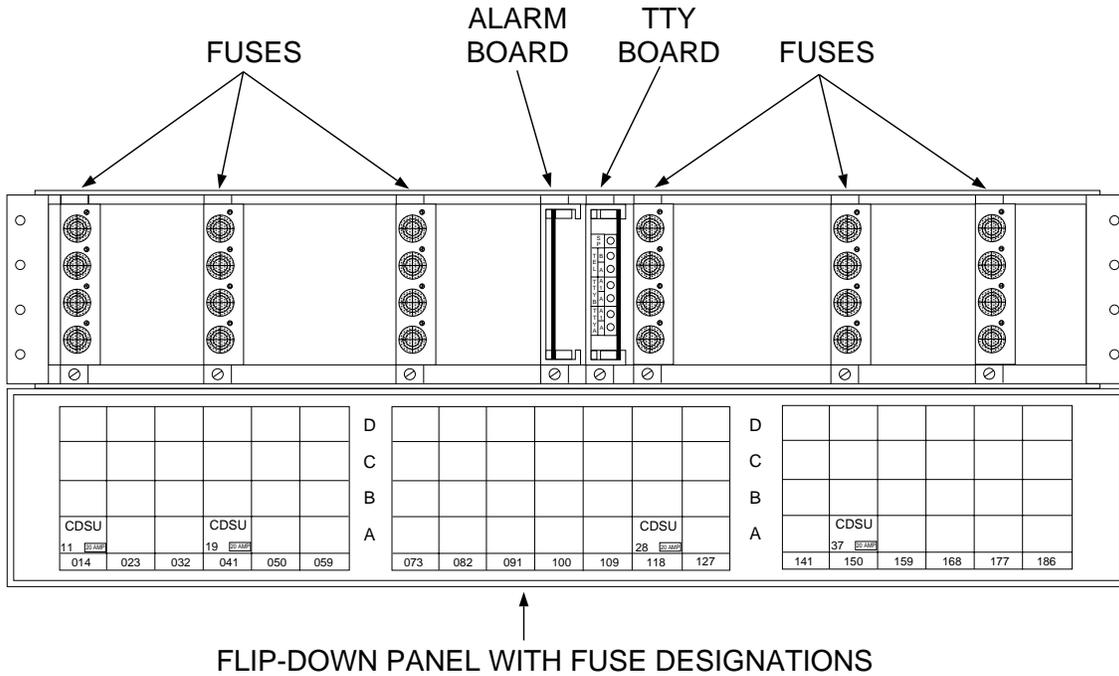

Figure 18. Fuse and Filter Panel for the CDSC-II
- Fuse and Filter Panel for the CDSC-II (Figure 18)